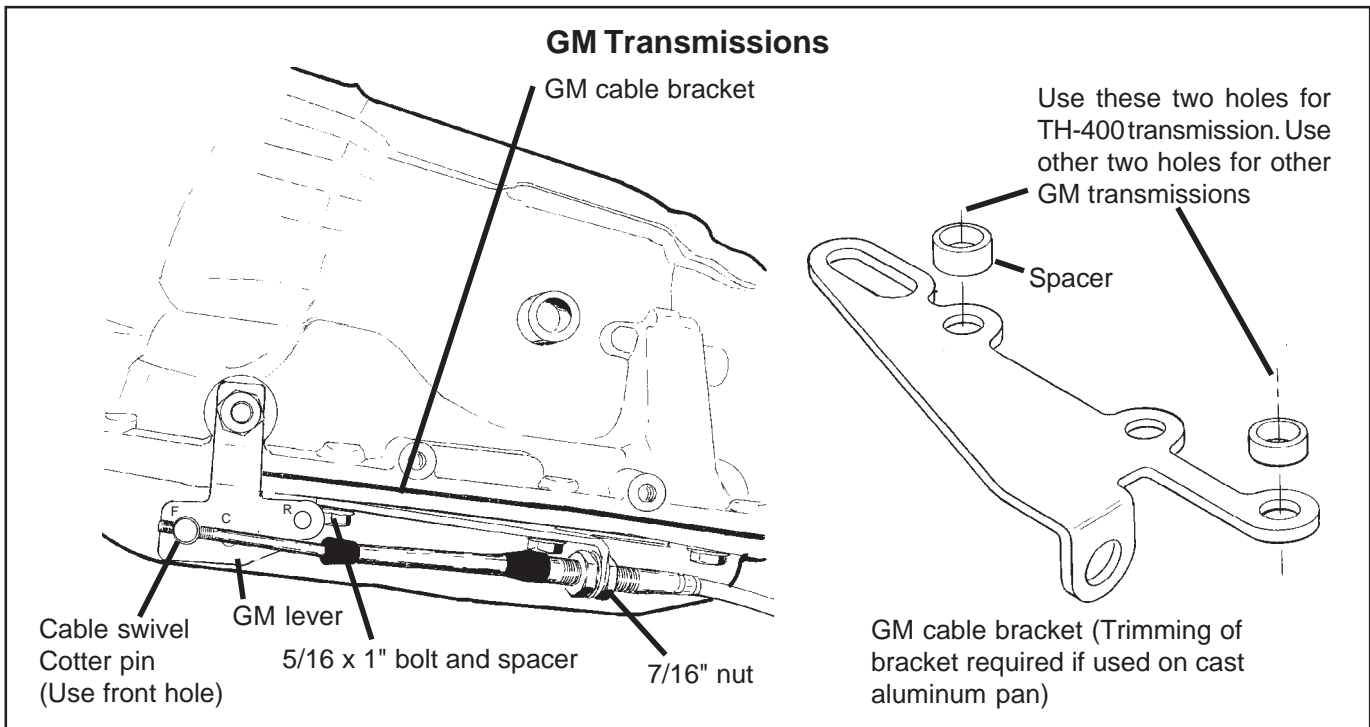

Figure 5
STEP 9. Install the **B&M** selector lever in position on the transmission using the stock selector lever nut (**See Figure 5**). Torque the nut to 23 lb.ft. The lever should move smoothly front to back with a positive click in each gear position.
STEP 10. Remove the two transmission oil pan bolts from the middle of the left side of the oil pan. Install the cable bracket in position (**See Figure 5**). The bracket must be installed with spacers between the pan and the bracket unless a cast aluminum pan is used. (On a TH-400 with a cast aluminum pan it will be nec-
- ___ Cable is routed as shown in **Figure 5** and securely fastened to transmission and swivel is held with cotter key. **Step 12.**